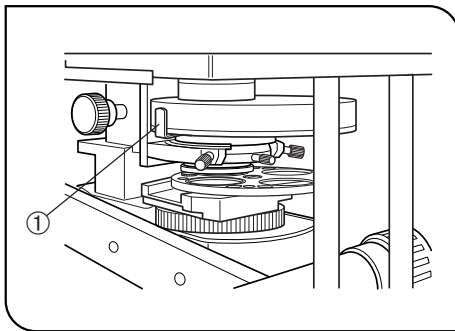
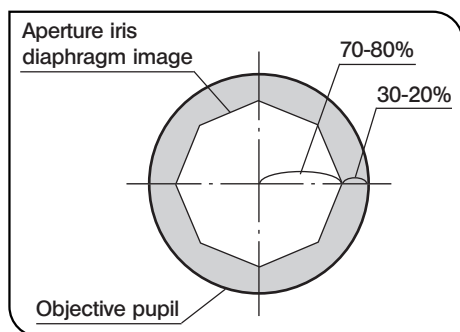

Fig. 22
Fig. 23
1. Set the aperture iris diaphragm lever ① to the open position. (Fig. 22)
- Since the contrast of microscope specimens is ordinarily low, setting the condenser aperture iris diaphragm to between 70% and 80% of the NA of the objective in use is usually recommended. If necessary, adjust the ratio by removing the eyepieces and looking into the eyepiece sleeve while adjusting the aperture iris diaphragm lever ① until the image shown in Fig. 23 is seen. (Fig. 22)